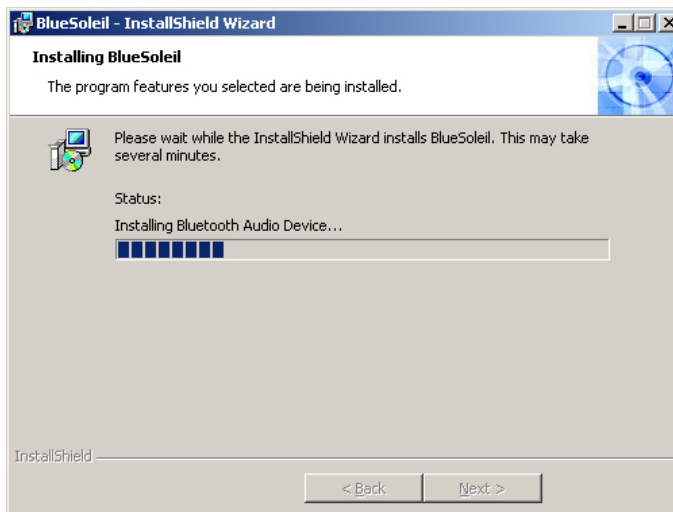

Figure 7-40: Installing BlueSoleil
Step 8: Click **INSTALL** to continue. The Installing BlueSoleil screen appears as the program is installed (**Figure 7-40**).